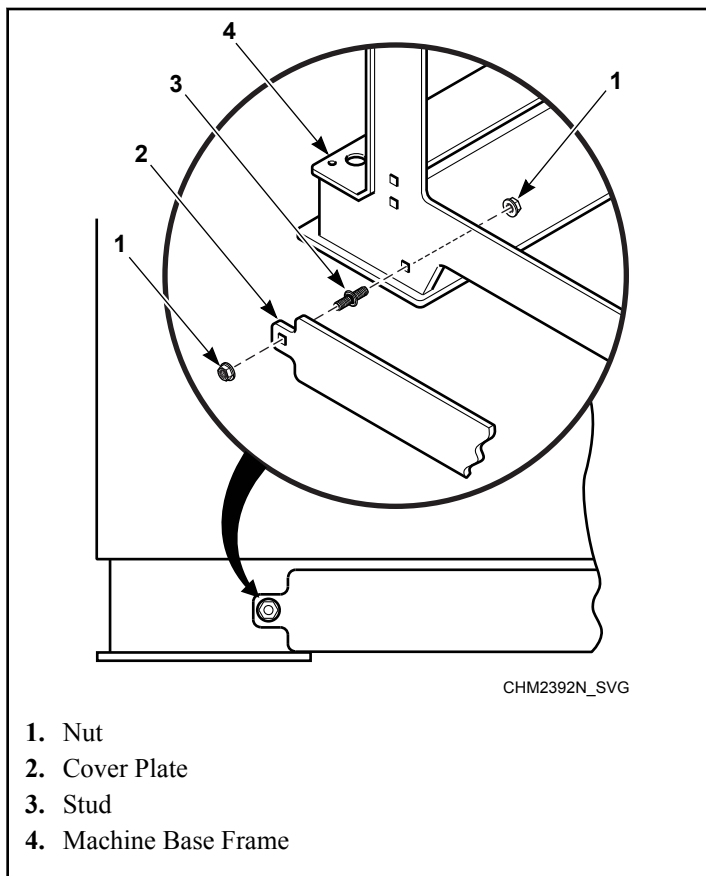

Figure 37
1. Locate the two holes on the front of the machine base frame. Refer to *Figure 37*.
2. Using the hardware from removing plate from back panel, install the cover plate to the machine base frame. The square on stud goes into square hole in machine frame. Refer to *Figure 37*.